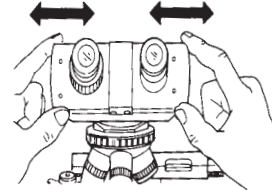

Fig. 4.5
- Adjust the interpupillary distance till the right and left images become one (Fig. 4.5).